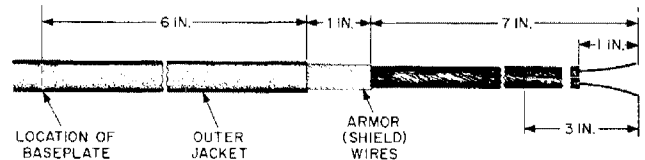

Fig. 2—Preparation of D Underground Wire for B Cable Closure
3.03 To terminate D Underground Wire, pull slack from the wire and mark the outer jacket about 6 inches above the baseplate. Prepare the end as shown in Fig. 2.